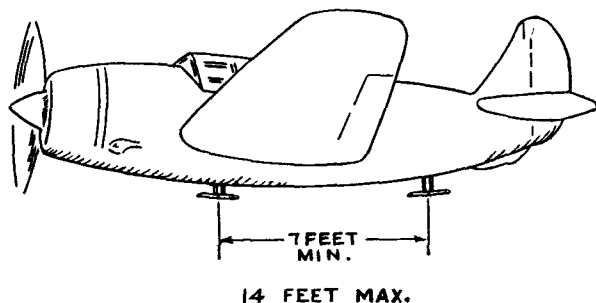

Figure 2-1. "In-Line" Antenna Arrangement
(1) One satisfactory mounting arrangement is to mount the two antennas on the under surface of the fuselage with the horizontal portions of the antennas aligned on a common axis parallel to the axis of the fuselage, as shown in figure 2-1. Since signal is trans-